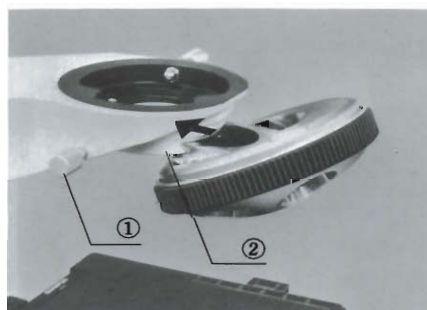

Fig. 2
⑥ Mounting the revolving nosepiece
- 1) Loosen the nosepiece clamping screw ①. (Fig. 2)
- 2) Aligning the nosepiece dovetail slide to the mounting block ②, push in the nosepiece slowly all the way.